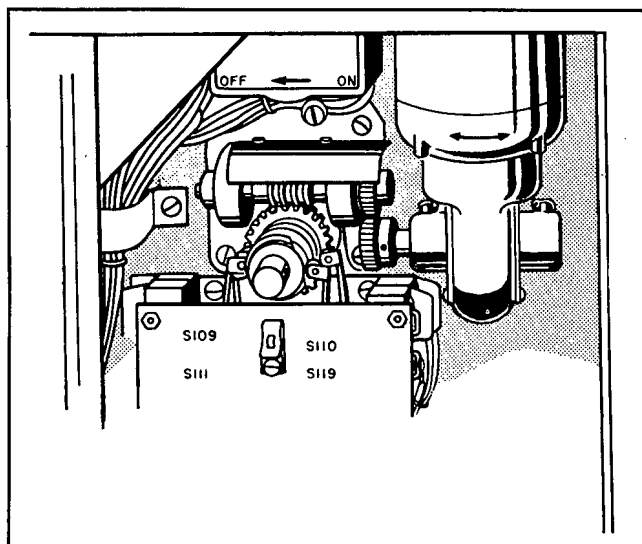

Figure 3-35. Limit Switch and Cam Assembly in Transceiver
(9) Press the POWER ON button S-103. The PLATE VOLTAGE meter should indicate 500 volts. If it does not, adjust it to 500 volts with the RAISE and LOWER switches. Then turn off the equipment and adjust the cam controlling microswitch S-109 so that this switch is open for all plate voltages below 500 volts. The cam is fastened by setscrews to the shaft of the variable low-voltage transformer. The location of this cam and those controlling microswitches S-110, S-111, and S-119 is shown in Fig. 3-35.